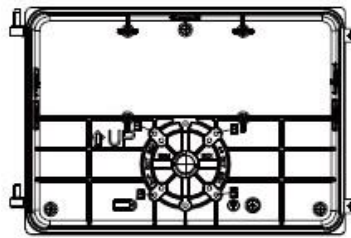

Fig4
**Method B:** Drill holes per the existing junction box (Fig4).